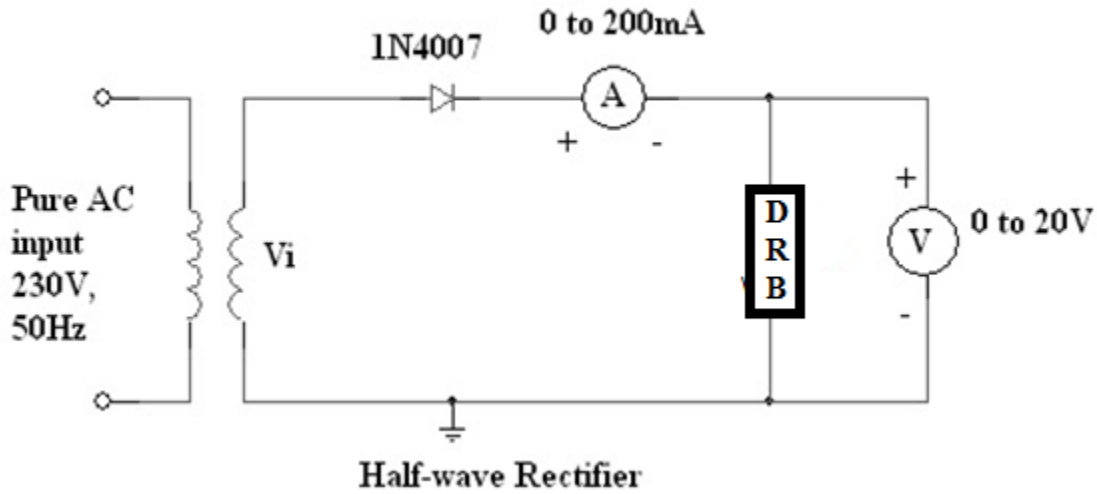

Fig. 1: Circuit diagram of Half-wave rectifier
1. Connect the circuit as shown in the fig.1.